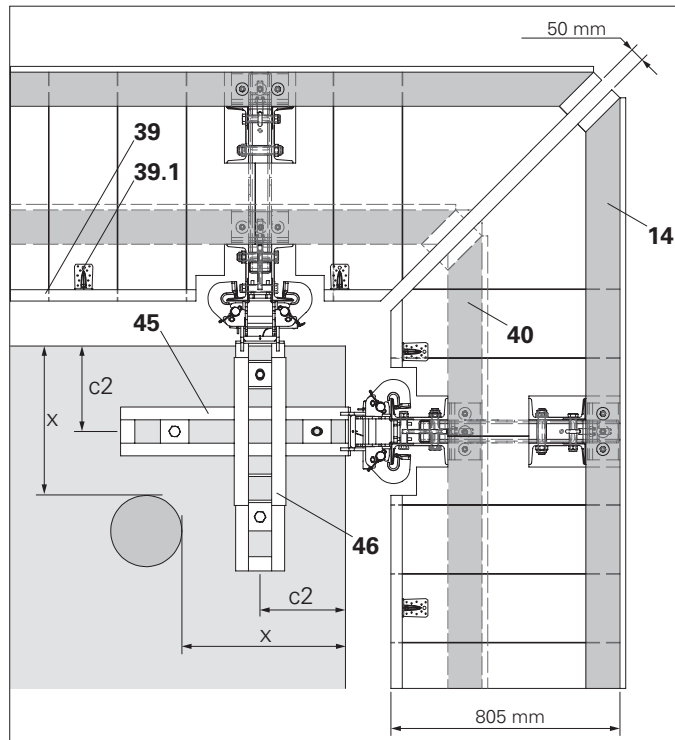

Fig. B3.02
Standard corner elements e.g. for internal building columns with an edge distance of $x \geq 400$ mm. (Fig. B3.02)
The work platform is mitred accordingly. Push the enclosure beam (14) and platform beam (40) up to the mitre. Assemble platform decking using multi-layer plywood sheeting in the mitred area. Cover the mitre gap. (Fig. B3.02)